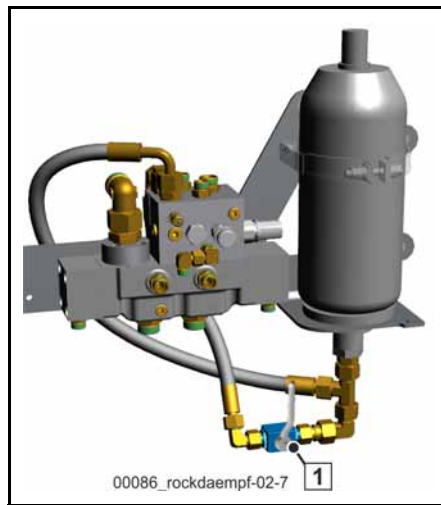

Fig. 634 Rock valve damping
- Move the ball valve (1) (**Fig. 634**) into a vertical position in order to enable Soft-Shift function a).